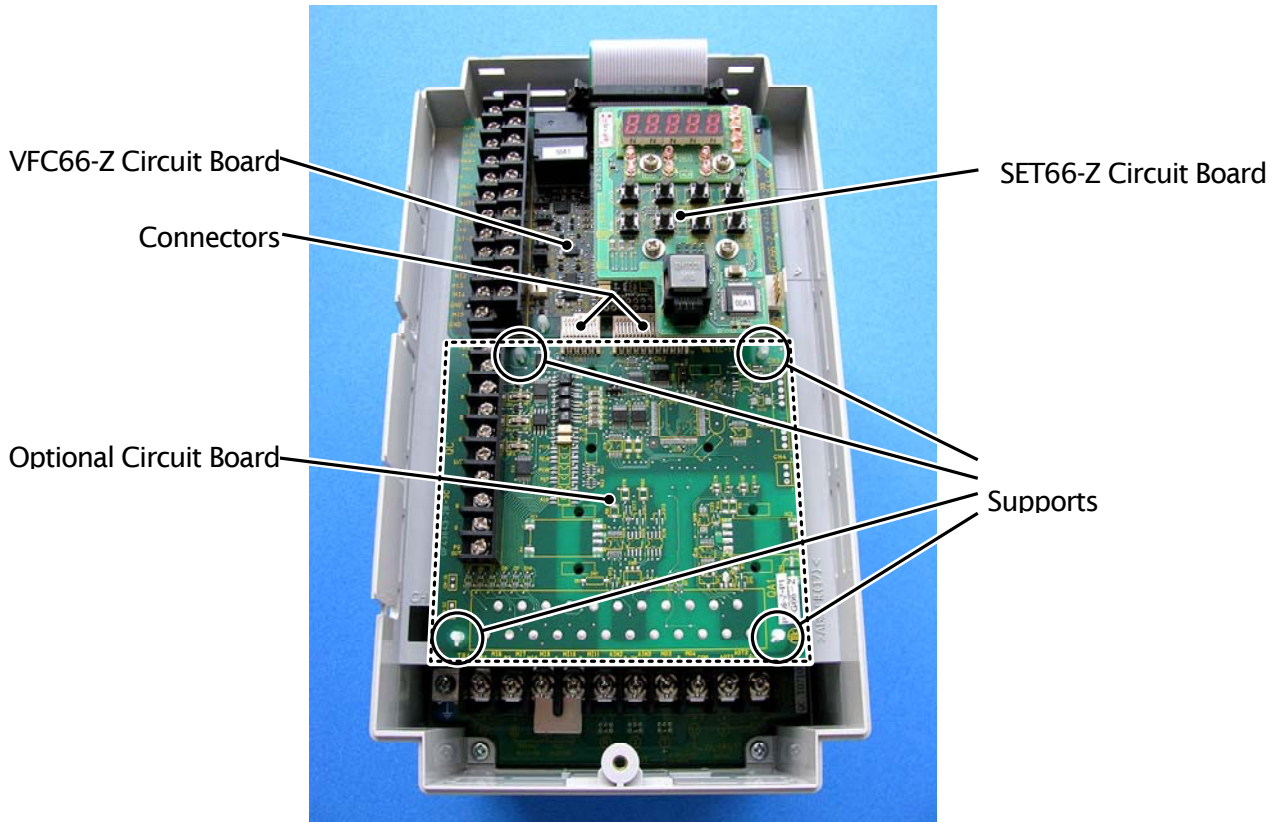
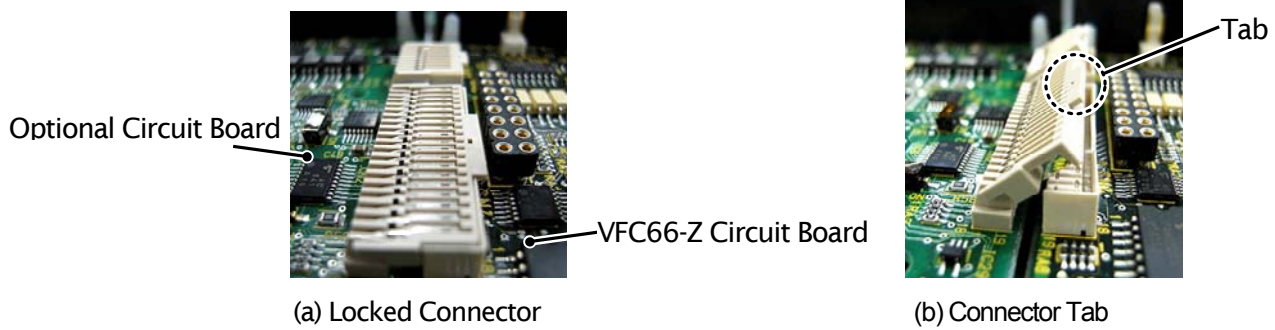
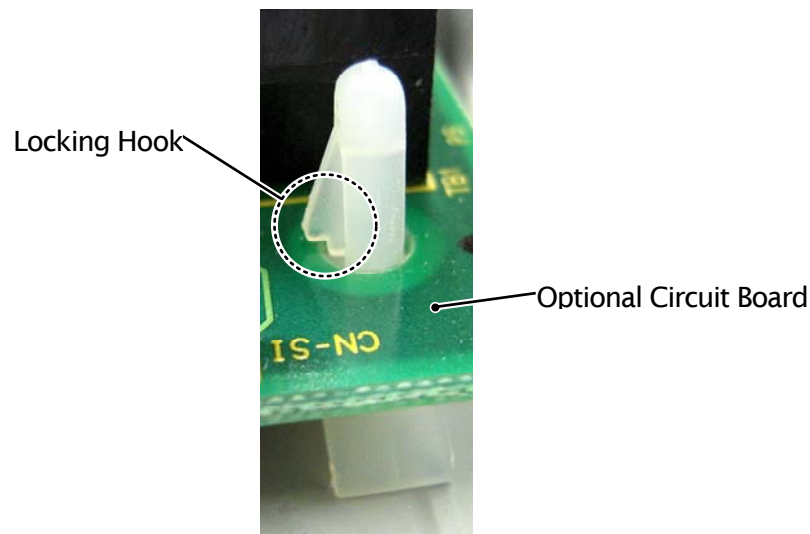

Figure 3.2 Optional Circuit Board Installation Position (VF66B-2R222)
Figure 3.4 Connector
Figure 3.5 Support Locking Hook
- (1) Confirm that the power is off before performing any work.
- (2) Install the OPCN66-Z board in the location designated by the dotted lines shown in Figure 3.2. (The figure shows the VF66B-2R222 model, however, the installation location is the same for other models.) If another optional circuit board is already installed, remove it by following the procedure described below. If another optional circuit board is not already installed, skip to (6).
- (3) In order to safely remove the optional circuit board, first remove the SET66-Z board. Remove the 4 screws indicated by the circles in the figure on the right. Pull the SET66-Z board away from the VFC66-Z board in order to detach it.
- (4) Next, release the two connectors between the VFC66-Z board and the optional circuit board. Figure 3.4 (a) shows the connector in its engaged position. Pull up the tab to release the connector as shown in Figure 3.4 (b).
- (5) 4 board supports are included to mount the optional circuit board to the inverter housing, as indicated by the circles in Figure 3.2. Press down on the board support locking hooks as shown in Figure 3.5 to remove the optional circuit board.
- (6) Align the four holes of the OPCN66-Z board with the 4 board supports indicated by the circles in Figure 3.2. Push down on the board until the support locking hooks snap into place as shown in Figure 3.5.
- (7) Align the tabs (shown in Figure 3.4 (b)) of the OPCN66-Z board connectors CN1 and CN2 with the VFC66-Z board connectors CN7 and CN4. Press down on the tabs to engage with the connectors. Once the connectors are correctly joined, it will look like Figure 3.4 (a). The movable part of the connector has some elasticity and if the joint is weak, it may become disconnected. Ensure that it is properly locked in place.
- (8) Install the SET66-Z board to its original position.
- (9) Return the inverter unit cover lid to its original position.